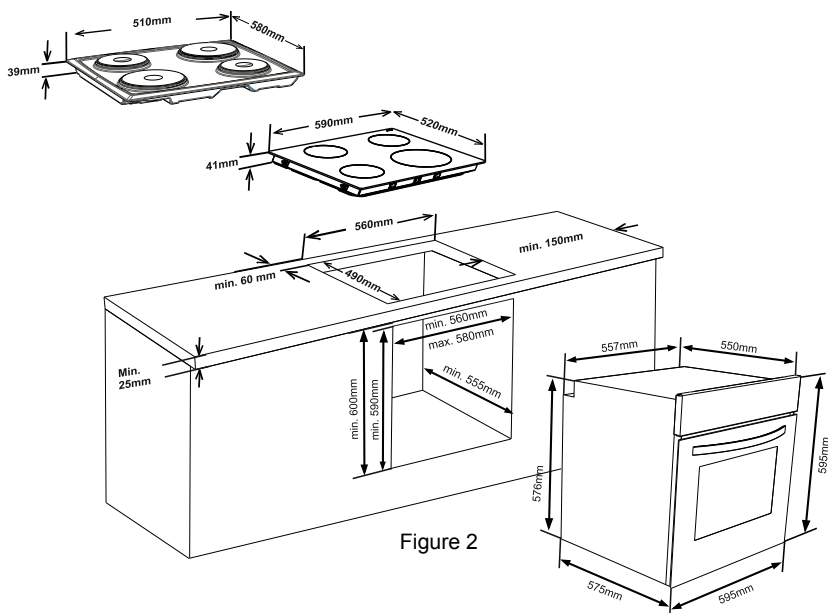

Figure 2
- 1-Place the hob into the opening on worktop. The size of opening is given in Figure 2. For details, see the headings either fixing the solid hotplate hob or fixing the vitroceramic hob.
- 4-Place the oven into its built-in niche. Either placement in Figure 2 is applicable depending on the size of cabinet opening. For details, see the heading fixing oven.
· Create an opening with the dimensions shown in figure 2. The distance between the rear edge of the hob and any adjacent wall is depend on wall surface. Please don't use easily combustibile material like curtain, paper at nearby hob.
- The earthing cable must be connected via the screw with the earthing mark (Ⓢ). Power cord connection must be as shown in Figure 2. If there is no earthed outlet conforming to regulations in the installation environment, call the Authorised Service immediately.
Connection of the appliance must be as shown in Figure 2. The appliance is designed for fixed connection to the mains. There is to install an all pole disconnector inside the supply circuit with a contact opening of at least 3mm (rated 40A, delay functioning type)